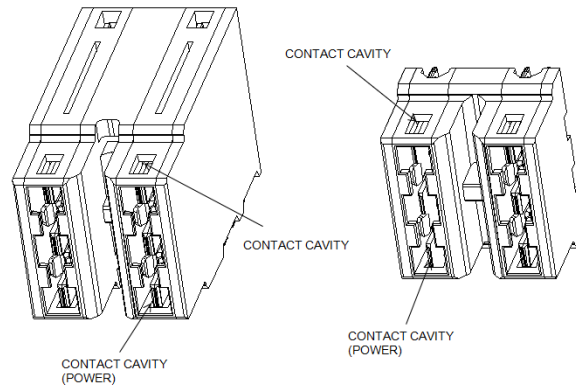

FIGURE 5 TEST POSITION
- b. Test Position (Figure 5)
The requirements for the Probe position are not clearly specified by UL and IEC. However, assuming the worst-case scenario where the connector is accessible, the following 3D model was created. The receptacle connector is tested by test probe in the areas shown in the figure 5.